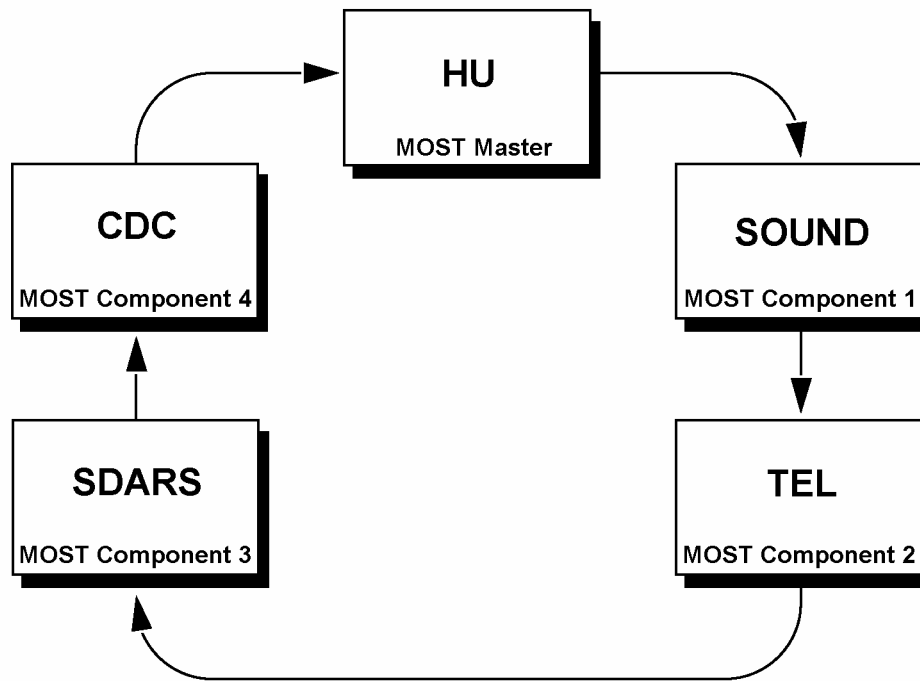

Figure 51
2. Set the MOST ring configuration to match that of Figure 51 by using the path:
**Control units > Information and communication > Audio, video, navigation and telematics > COMAND with integrated Audio Gateway > Retrofitting of MOST components > F2: Restart of optical ring > F2: Actual configuration > Verify that “Telecommunications” is listed under Actual Value and configuration of the MOST components matches that of Figure 51 > F2: To continue > F3: Yes, to write the current actual configuration to MOST master > F2: Erase fault memory**
**Note:** The MOST ring configuration in Figure 51 is an example of a configuration including every component. Some installations will not include all the components shown in the example. If a component is not present, connect the preceding component to the component following the one not present.
**Failure to have the configuration match Figure 51 will result in erroneous system operation and/or intermittent malfunctioning of some or all components.**
**DO NOT alter the configuration in Figure 51 to match the vehicle configuration.**